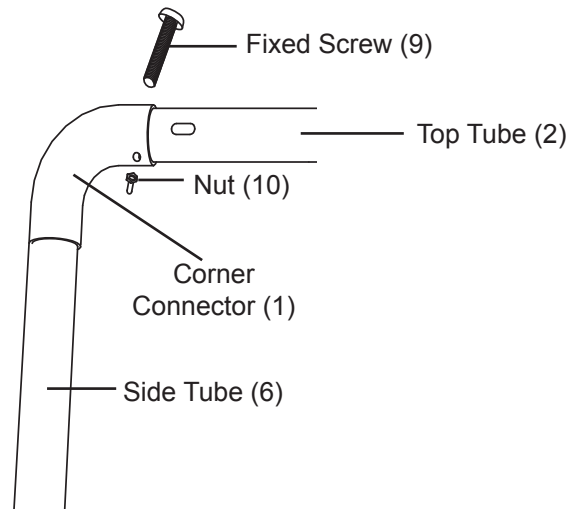

Figure 2
2. Attach Corner Connectors (1) to Side Tubes (6). Then use the Fixed Screws (9) and Nuts (10) to fasten the Corner Connectors to the Top Tube. See Figure 2, below.